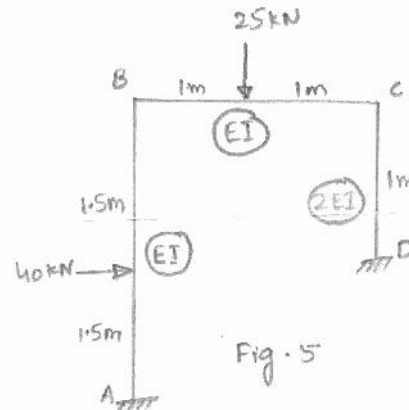

Fig. 5
14. Analyze the plane frame shown in fig. 5 using stiffness matrix approach Also draw BMD